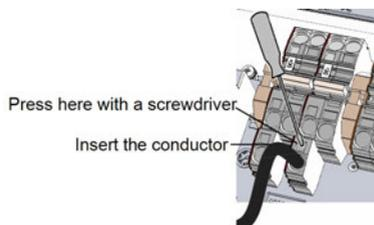

Figure 28: DC Spring-clamp terminals
- c. Insert the wire into the top opening (see *Figure 28*).